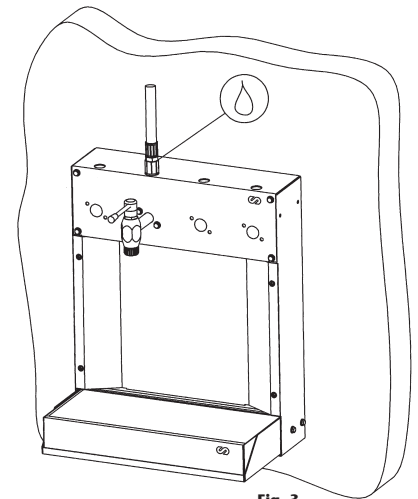

Fig. 3
3. Once assembled, connect the corresponding hoses. (See figure 3).